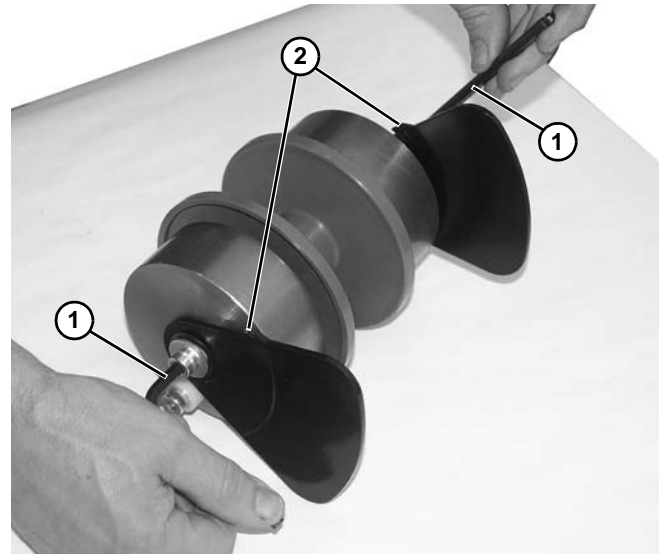

Figure 155
10. Install components reverse of removal, using two hex wrenches (**Figure 155, item 1**) on each side of idler assembly to tighten components.
*Be certain that notches (**Figure 155, item 2**) on both plates are on top side, and spacers are in same orientation, as shown, before tightening components.*